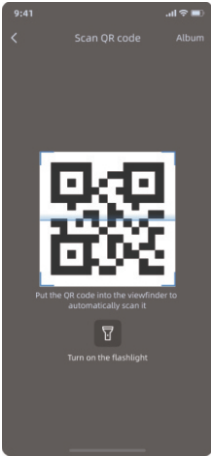

Figure 1
1)Figure 1: Place the other party's QR code into the viewfinder, and after successful scanning, select the device to share;When the light is dim, click **"Turn on the flashlight"** to turn on the flashlight for auxiliary scanning.